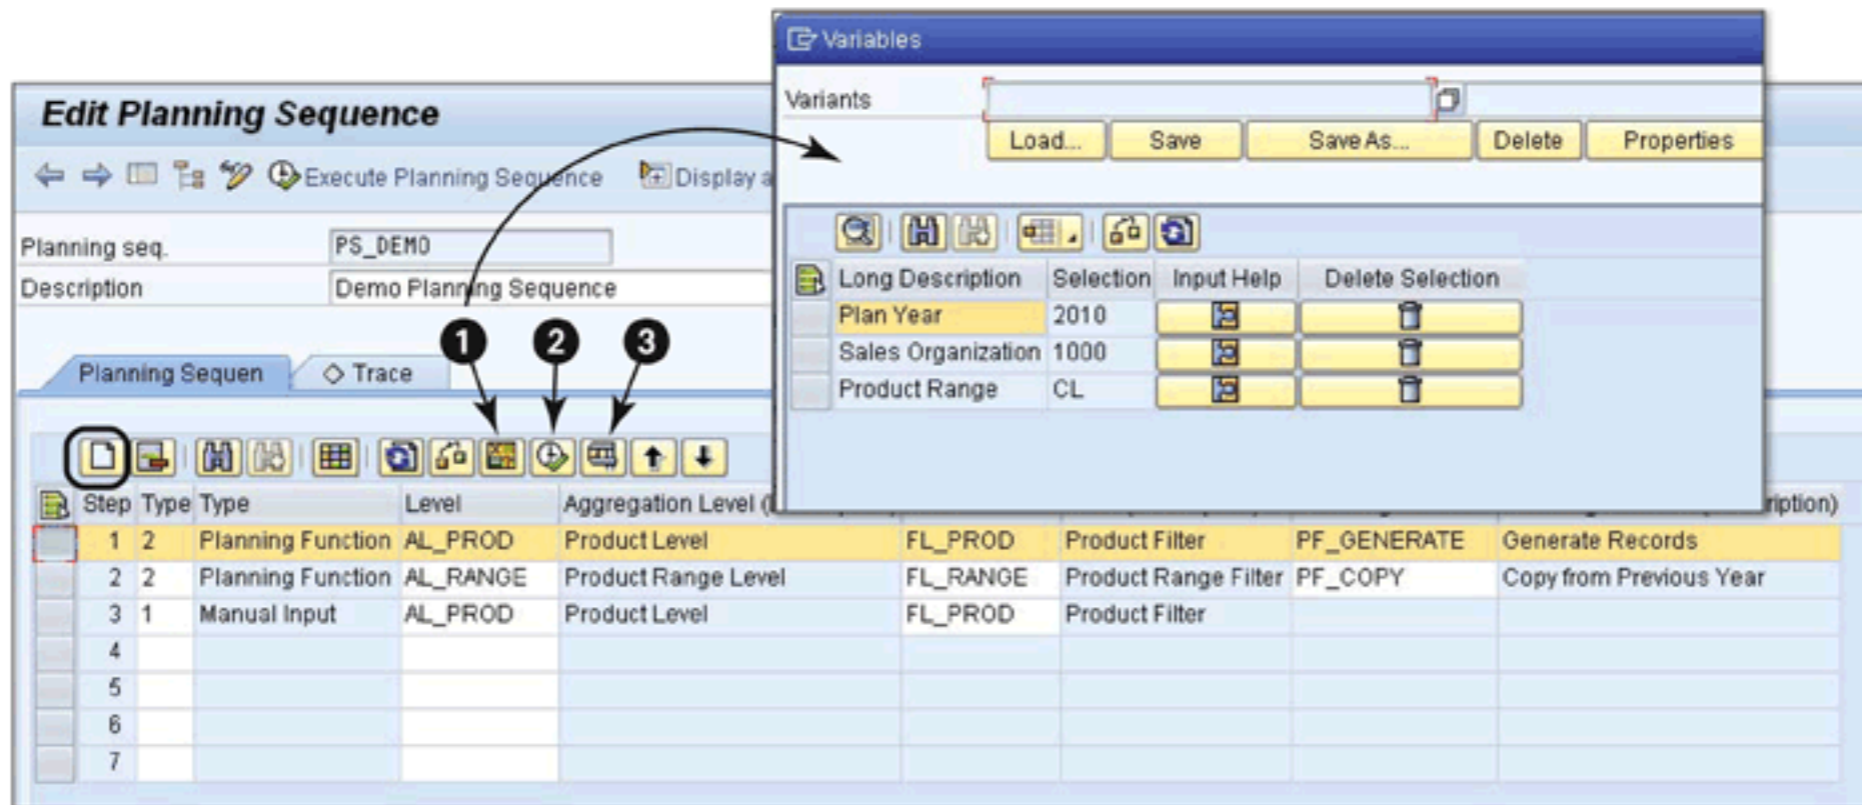

Figure 12.54 Executing Planning Function or Sequence
After the planning sequence is saved, you now have the option to execute it directly or to execute it without trace. You can test and validate the complete planning sequence or a selected planning function using this option. Before you execute any function or sequence, you have to first maintain the variable values involved in the planning function (❶ of Figure 12.54).
Once the variable values are maintained, now select a function to execute and click on the EXECUTE button (❷ of Figure 12.54). If no step is selected, the complete planning sequence is executed.